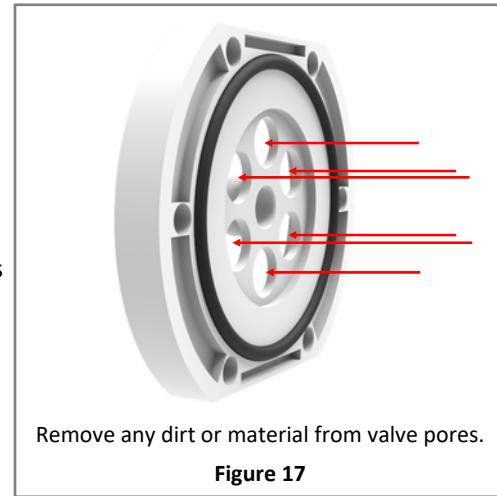

Figure 17
5. Inspect the rubber umbrella valve for any tears. Inspect the valve pores and remove any dirt or material that may have become lodged in the pores. Inspect O-rings for any sign of wear and replace as necessary. Ensure that they are correctly installed in the valve stop grooves. *(Figure 17)*